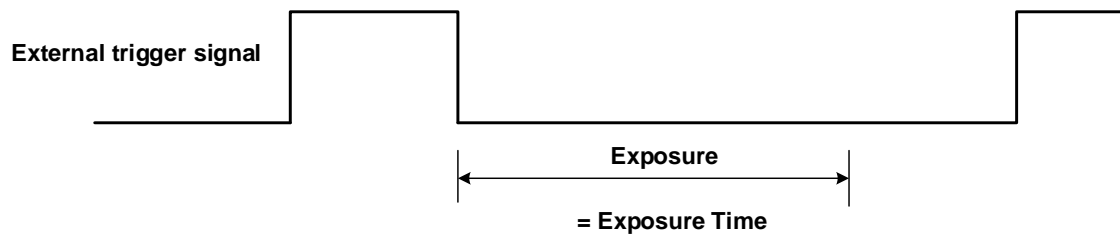

Figure 8-26 The sequence diagram in falling edge trigger of Timed exposure mode
- If falling edge triggering is enabled, exposure starts when the trigger signal falls and continues until the exposure time has expired, as shown in Figure 8-26